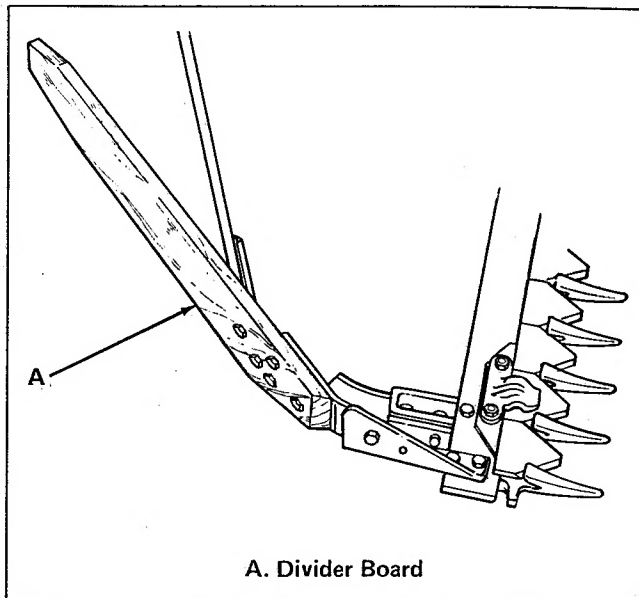
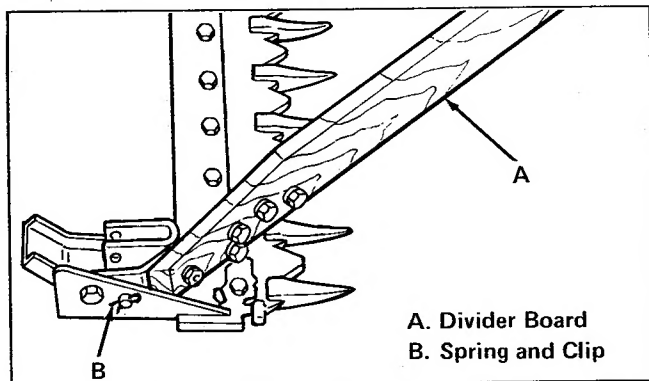

Figure 15. Divider Board in Operating Position
Figure 16. Raising Sickle Bar to Transport Position
To position divider board from transport to operating position remove spring clip and pin (item B, figure 16). Store spring clip and pin with transport chain. Lift up divider board and place into position (item A, figure 15).
1. With the sickle bar resting on the ground, lift up divider board and place it forward as shown (item A, figure 16).